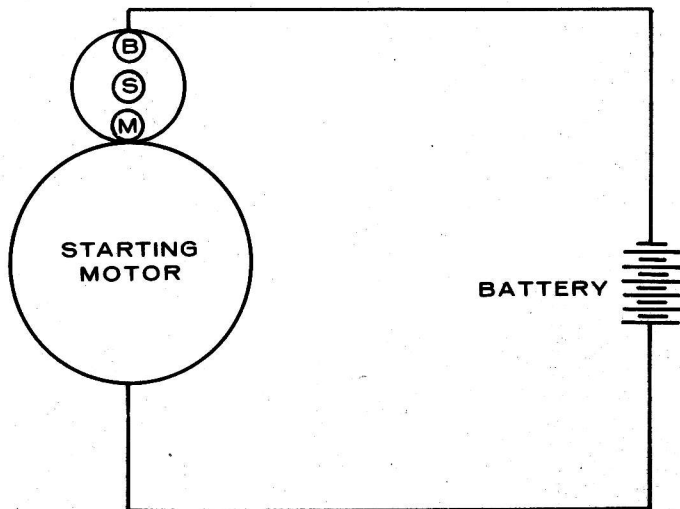
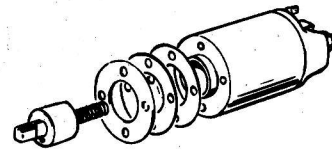

FIGURE 56. BATTERY CONNECTIONS
FIGURE 57. ADJUSTING PINION CLEARANCE
2. To adjust pinion clearance, connect the battery to the starting motor as shown in Figure 56. This will allow the pinion of the starting motor to slide and stop. In this state, measure the clearance between the end of the pinion and pinion stop when the pinion is pushed lightly toward the commutator end. Clearance should be 0.02 to 0.06 inch (0.51 to 1.52 mm). Adjust for proper clearance by removing the solenoid switch attaching screws and select the proper thickness of the fiber packings shown in Figure 57.